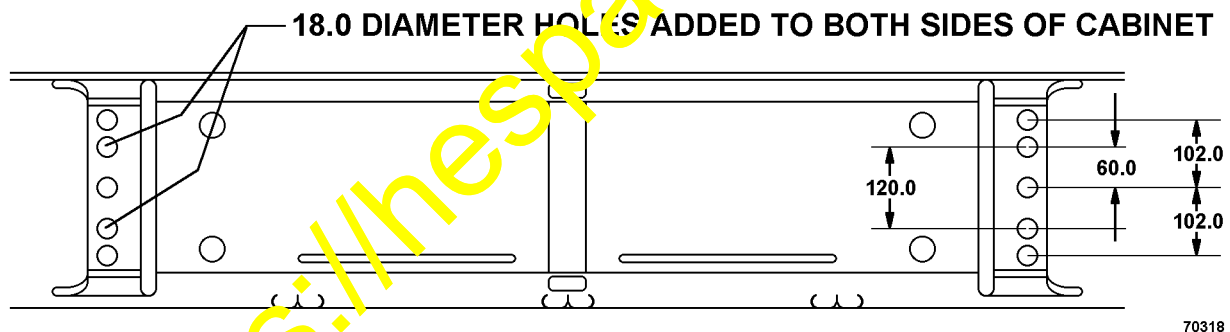

Figure 2. Holes Added to Frame Bracket
Loosen the hose clamps securing the hydraulic hoses that enter the lower side areas of the cabinet. Raise cabinet carefully to allow clearance. Drill (4) 18.0 mm holes in the frame mounting plates (Figure 2). **A magnetic drill of adequate size is recommended to do this work.** After drilling is done, insure the surface is flat and free of burrs. Reposition the cabinet on the new spacers and install the new bolts. **If any hoses were disconnected, make sure they are reconnected and the brake system is working properly before returning truck to production.**